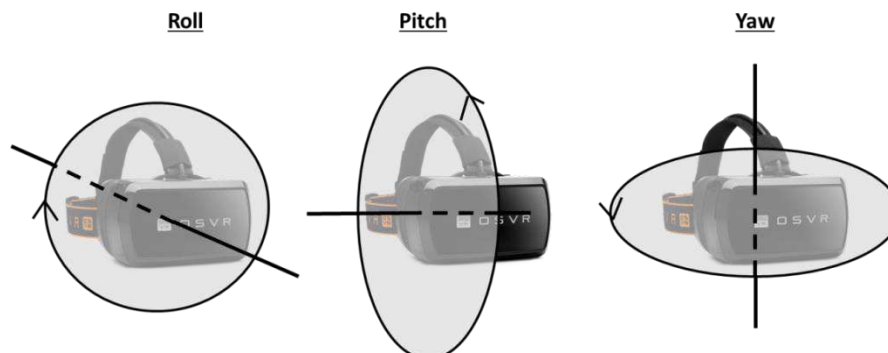

Figure 1: Headset Rotation Axes
- Rotate the device ~180° and back to the beginning position in each axis (roll, pitch, yaw) as shown in Figure 1